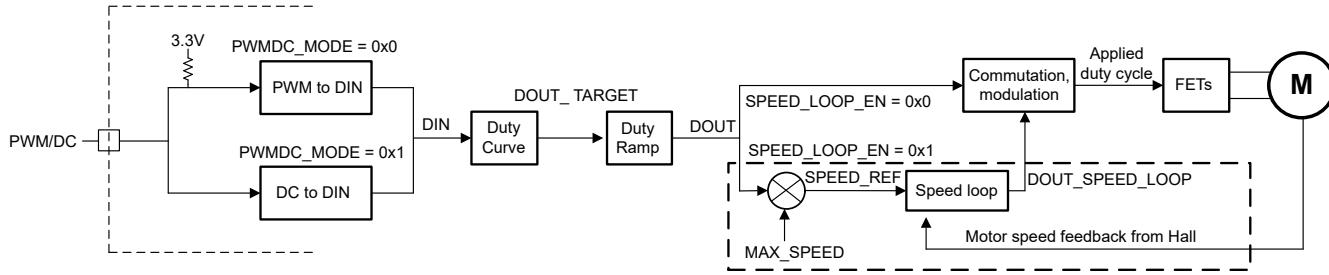

Figure 6-2. MC121-Q1 Motor Control Block Diagram
MC121-Q1 accepts a pulse-width modulated (PWM) or a DC (analog) input on the PWM/DC pin to control the motor speed. The MC121-Q1 provides a configurable **duty curve** to map the input duty (DIN in Figure 6-2) to a user configured target output duty cycle (DOUT_TARGET in Figure 6-2). The MC121-Q1 also provides a user configurable **duty ramp** to smoothly increase/decrease the output duty cycle (DOUT in Figure 6-2) to reach DOUT_TARGET. The MC121-Q1 supports both **open-loop** (duty cycle) and **closed-loop** (speed) control. In open-loop (duty cycle) control, the applied duty cycle is directly set by DOUT while in closed-loop (speed) control, the applied duty cycle is set by the speed loop. An integrated digital-latch **Hall sensor** provides rotor position and timing information to the commutation algorithm. The MC121-Q1 supports **square** and output PWM waveshaping schemes to optimize between efficiency/motor speed and acoustic noise. The MC121-Q1 provides synchronous, asynchronous, and hybrid output **PWM modulation** modes on the H-bridge. Configurable hall lead/lag angle and time adjustment is available to improve the efficiency across both lower and higher speeds. In addition, MC121-Q1 provides a configurable demagnetization (auto or manual) feature to reduce the motor winding current to zero before a commutation to minimize the DC bus (VM) voltage spike, acoustic noise and improve efficiency.
Figure 6-2 shows the motor control block diagram of MC121-Q1.
The MC121-Q1 implements a user configured two-slope ramp to reach the target output duty cycle (DOUT_TARGET in Figure 6-2) during motor start-up as shown in Figure 6-6. The two slope ramp (pre-start followed by soft start) enables a reliable start-up and reduces motor noise.
The MC121-Q1 enters the pre-start phase when the device exits standby mode, sleep mode, or fault mode. During the pre-start phase, the MC121-Q1 always uses square commutation to drive the motor. When PWM_RAMP_EN is set to 0x1, the output duty cycle (DOUT in Figure 6-2) increases linearly from starting duty cycle (DOUT_START x DOUT_MAX when speed loop is disabled and DOUT_START when speed loop is enabled) at the rate set by PWM_RAMP_SEL. When PWM_RAMP_EN is set to 0x0, then DOUT is updated directly by the DOUT_TARGET. The pre-start phase continues till four electrical cycles (eight Hall edges) are observed. When the fourth electrical cycle is completed, the device enters the soft start phase to ramp up DOUT to DOUT_TARGET; if DOUT has reached DOUT_TARGET by the end of pre-start phase, the soft start phase is skipped and device enters steady state directly. If the MC121-Q1 does not detect a Hall signal transition within t_{LRD} , the device enters the locked rotor protection fault state. During start-up sequence, locked rotor detection time (t_{LRD_START}) is user configured by LRD_TIME_STARTUP. During steady state, locked rotor detection time (t_{LRD_RUN}) is fixed at 320ms. Hall offset (angle and time) is disabled during the pre-start phase.
During motor operation, when DIN changes, the MC121-Q1 ramps the output duty cycle (DOUT in Figure 6-2) from previous target duty cycle (DOUT_TARGET_PREV) to the new target duty cycle (DOUT_TARGET) using user configured ramp rate. During acceleration (DOUT_TARGET > DOUT_TARGET_PREV), the ramp rate is set by PWM_RAMP_SEL and during deceleration (DOUT_TARGET < DOUT_TARGET_PREV), the ramp rate is either PWM_RAMP_SEL (when PWM_DECEL_SEL = 0x0) or 0.5 x PWM_RAMP_SEL (when PWM_DECEL_SEL = 0x1). PWM_DECEL_SEL = 0x1 provides a slower ramp during deceleration to avoid DC bus spikes due to regenerative energy push-back from motor. Figure 6-7 shows examples of DOUT increasing and decreasing according to PWM_RAMP_SEL.